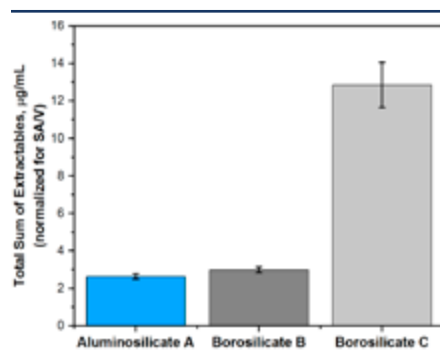

Figure 4 Total Sum of Extractables for Three Vial Types Measured by ICP-MS and Normalized for SA/V
The extractables profiles for size-matched vials are presented in **Figure 3** and include only extracted elements with a reported concentration greater than 0.01 ppm ($\mu\text{g}/\text{mL}$). A comparison of the total amount of extractables for each vial type is presented in **Figure 4**. The Aluminosilicate A containers exhibited lower concentrations of extracted aluminum and silicon than the (aluminum-containing) borosilicate containers. If the extracted amount of silicon, boron and aluminum is considered as a measure of breakdown of the glass network during corrosion, the extractables profile for Borosilicate C indicates it is the least chemically durable of the three container types tested. Alkali (Na, K) and boron components in glass have significantly higher dissolution rate in water compared to other glass components, so it is helpful to consider their extracted concentrations together rather than separately (7). The data in **Figure 3** shows that extracted Na+K+B is greater for both Borosilicate B and Borosilicate C than for Aluminosilicate A.